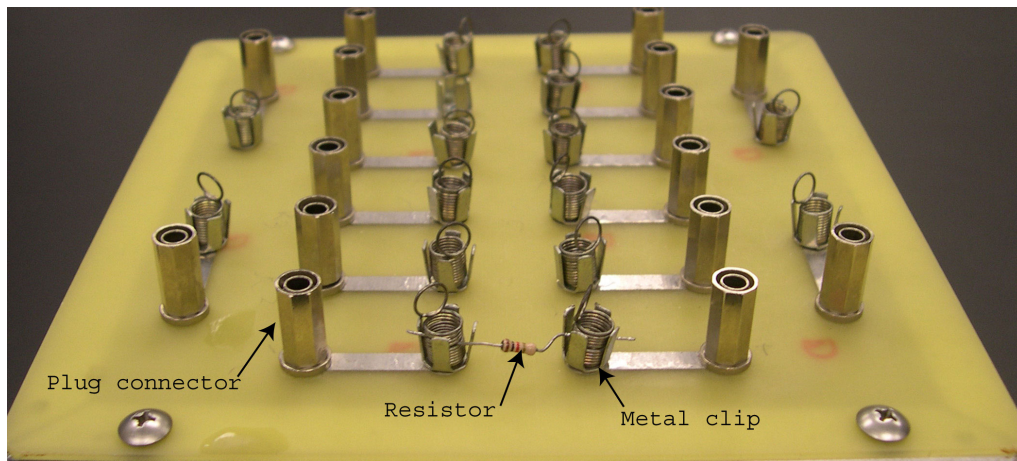

Figure 2.6: Breadboard
- breadboard (Fig. 2.6)
The breadboard is designed for quick construction of simple electronic circuits and is shown in Figure 2.6. Electronic elements (e.g. resistors) are easily attached using the metal spring clips in the middle of the breadboard. Each metal clip is electrically connected to a plug connector by a metallic strip. The resistance between the metal clip and the plug connector is negligible; therefore, you can assume that these two points are at the same electrical potential (voltage) and the same point in a circuit. Circuits are constructed by connecting the electronic circuit elements and the power supply together using cables with banana plugs. The banana plugs fit securely into the plug connectors on the breadboard, the multimeter and the power supply.